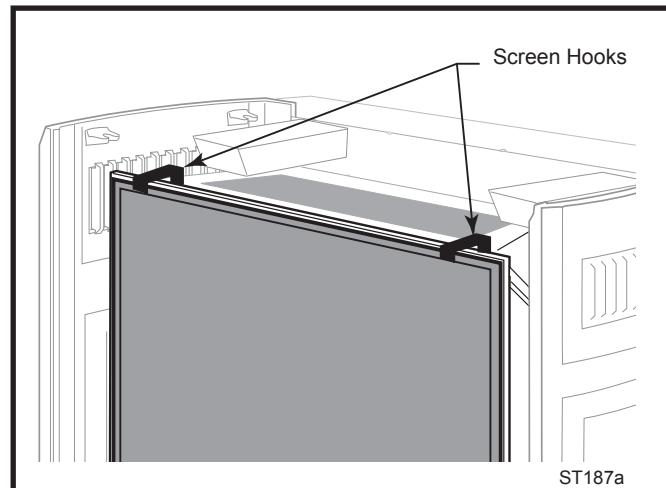

Fig. 6 Lift screen from firebox.
3. Remove the screen frame. (Fig. 6)